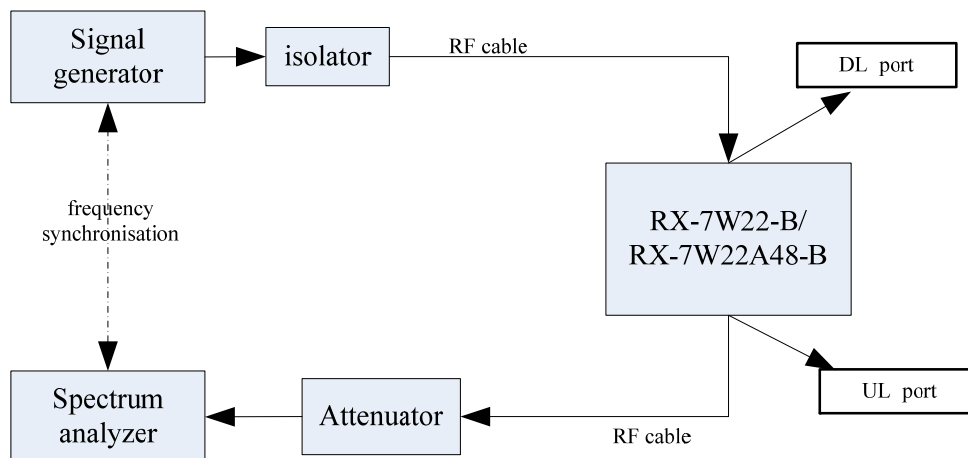
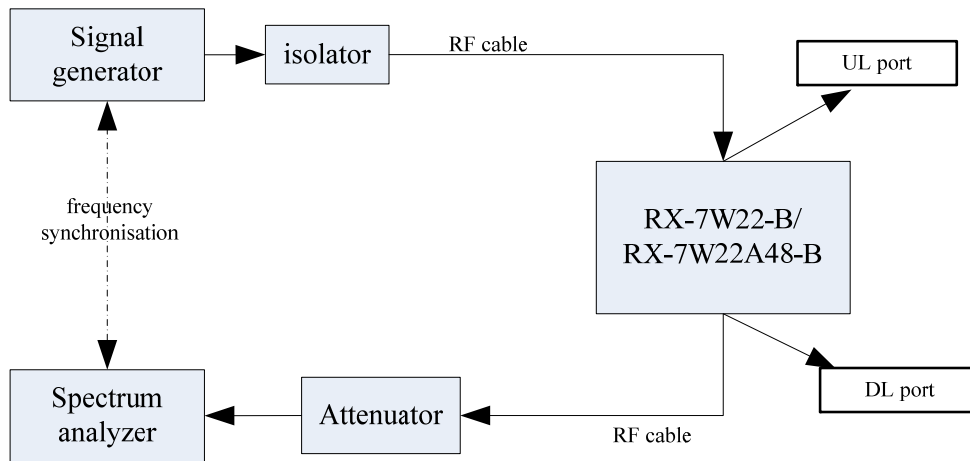

Figure 1: Maximum output power arrangement for Downlink
Figure 2: Maximum output power arrangement for Uplink
- (1) Connect the device as illustrated Figure 1 and Figure 2, when the output power is over the maximum value of the Spectrum Analyzer, add the attenuator to avoid destroying.
- (2) The signal generator should initially be configured to produce either of the required test signals (i.e., broadband).
- (3) Set the signal generator frequency to the center frequency of the EUT operating band.
- (4) While monitoring the output power of the EUT, measured using the methods of in KDB Publication 971168 [R8], increase the input level until a 1 dB increase in the input signal power no longer causes a 1 dB increase in the output signal power.
- (5) Record this level as the ALC threshold level.
- (6) Repeat the procedure with the remaining test signal.
- (7) Repeat RF channels to be tested for single-carrier: Low frequency and High frequency.